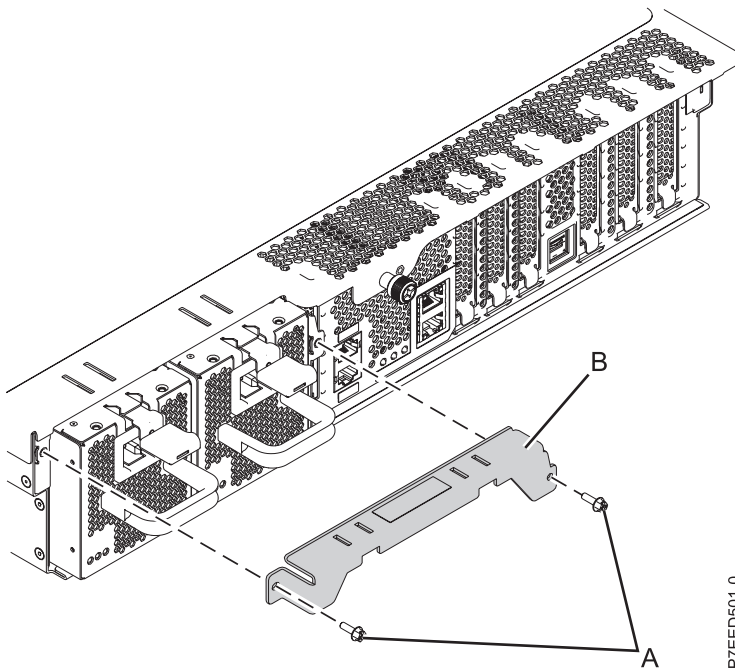

Figure 10. Shipping bracket removal
- a. Remove the two screws (A), as shown in Figure 10.